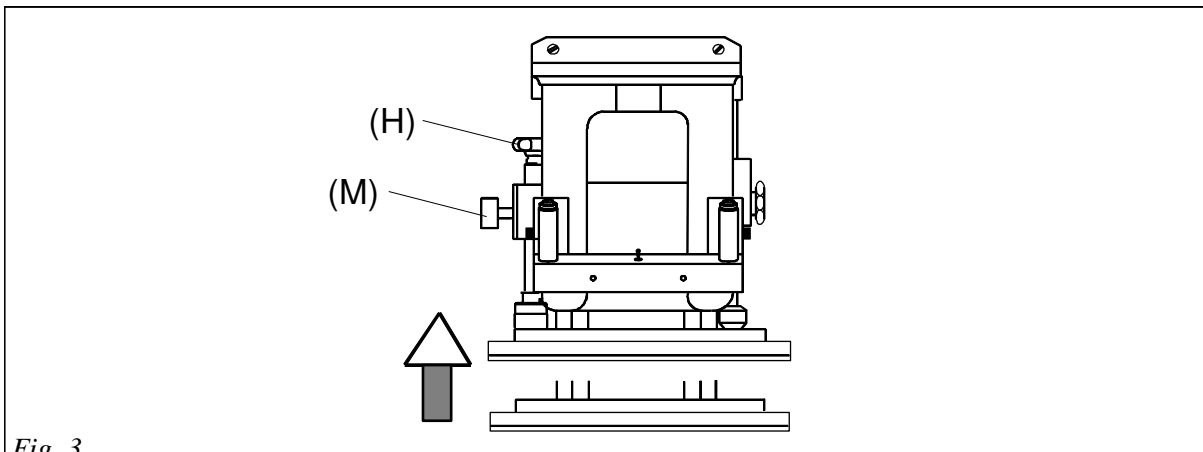

Fig. 3
- a) loosen the screw (M) and fully rotate anticlockwise the adjusting handwheel (H): the striking plate will rise up to its highest limit (Fig. 3).